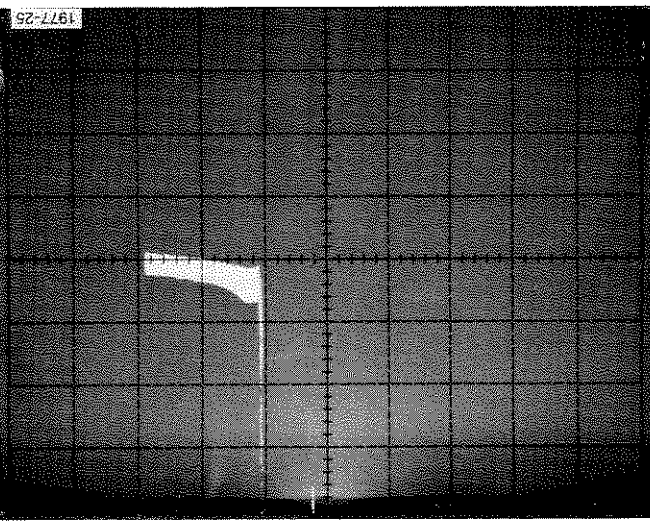

Fig. C-7. Power supply rejection ratio (+ and - psrr).
a. Check the power supply rejection ratio ( $\pm$ PSRR, see Fig. C-7).  $\pm$ PSRR is the power supply voltage swing (horizontal deflection) divided by the change in input voltage due to power supply variation (vertical deflection); e.g.,
Specifications for the 727 list 80  $\mu$ V/V as typical; Fig. C-7 shows 16  $\mu$ V/V for the device tested in writing this procedure.